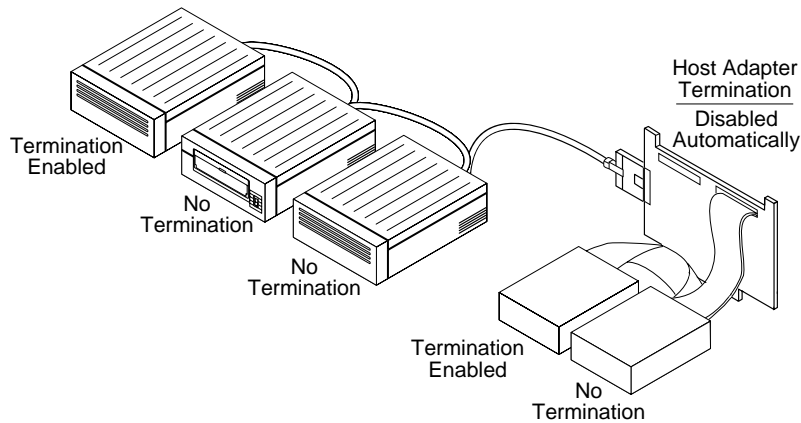

Figure 2-13. Internal and External Devices on SCSI Channel B
- If you attach SCSI devices to both Channel B internal and external connectors, as shown in Figure 2-13, host adapter termination is automatically *Disabled*. In this configuration, the host adapter is in the middle of the SCSI bus.